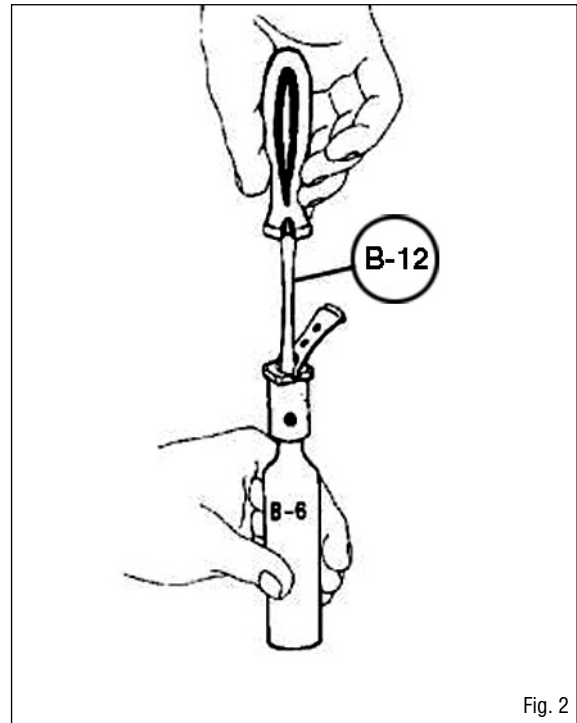

Fig. 2
22. Position the demand lever connector assembly on the special tool (B-6) and use the screwdriver (B-12) to unscrew the retaining nut (33) from the demand lever (35). Then remove the washer (34), the poppet assembly (30+47+92) and the spring (31) (Fig. 2).
23. Remove the poppet seat (47), pressing slightly on the poppet seat holder (92) in the direction of the threaded stem.
24. Remove the poppet seat holder (92) from the stem of the 2nd stage valve shaft (30).
25. Remove the exhaust valve (40).